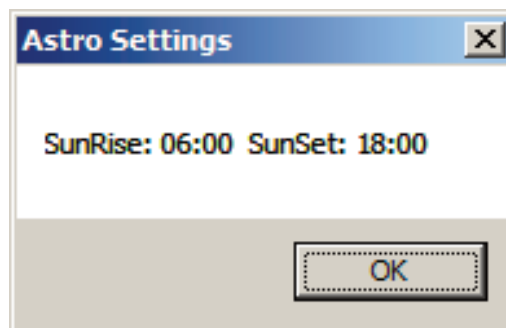

Figure 4.4 Astro Setting
1. From the InSite menu bar, select Tools, and then Sunrise Sunset. A window will open as shown in figure 4.4 with today's sunrise and sunset times.